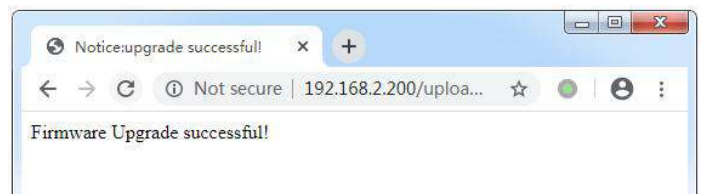

Fig. 6.3
10. Select the firmware: It is used to upgrade the firmware of the device. Click the button [Choose File] to choose the firmware (.bin) of the updated device, and then click the button [Upload] to update the device. Figure 6.3 shows the firmware upgrade successful.